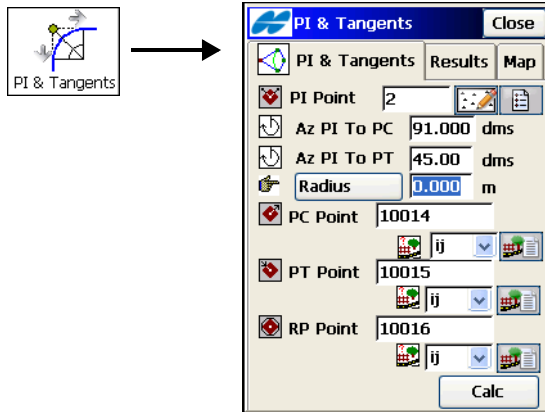

Figure 14-30. PI & Tangents
To compute the the PC point, the PT point and the center (Radius Point) of a Curve, given the Point of Intersection (PI), the radius, and the azimuths from the PI point to the PC, and PT points respectively, tap the **PI & Tangents** icon. The **PI & Tangents** screen displays (Figure 14-30 on page 14-25).